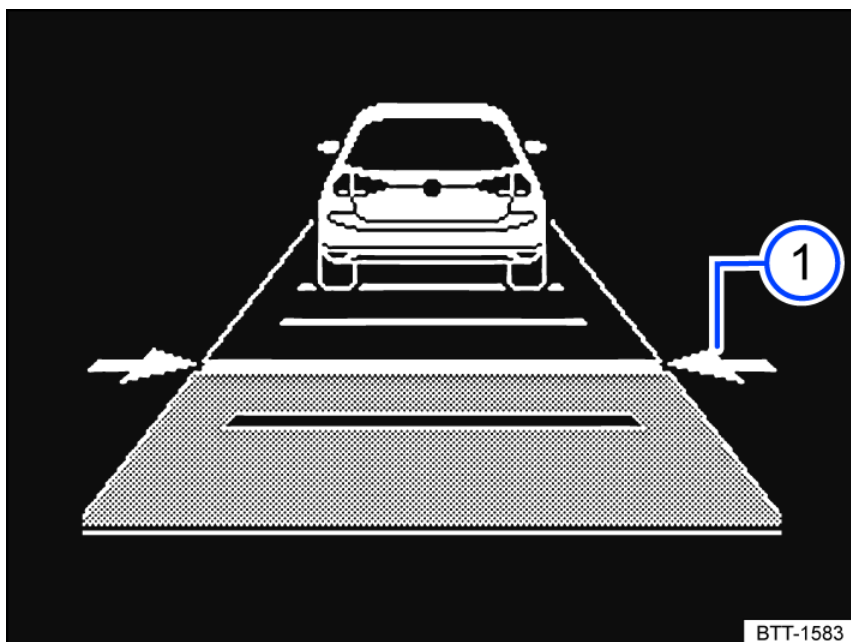

Fig. 101 In the instrument cluster display: set distance ① (general example, ACC is regulating).
The instrument cluster display shows the selected level *fig. 101 ①*. Heed the country-specific regulations for minimum distance.